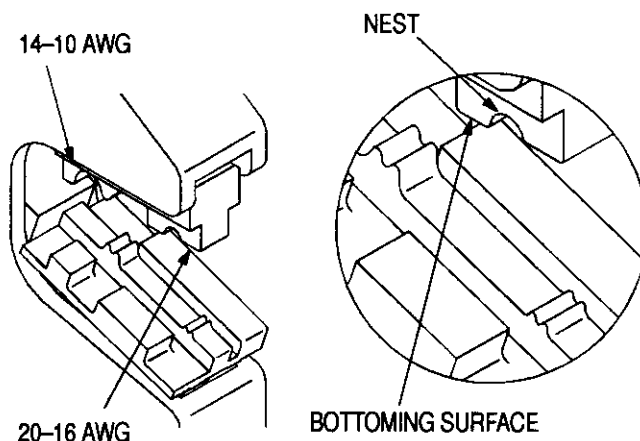

Figure 5
6. To complete crimp, close handles until ratchet releases; dies will bottom surface shown in Figure 5. Allow handles to open; crimped item may be removed.